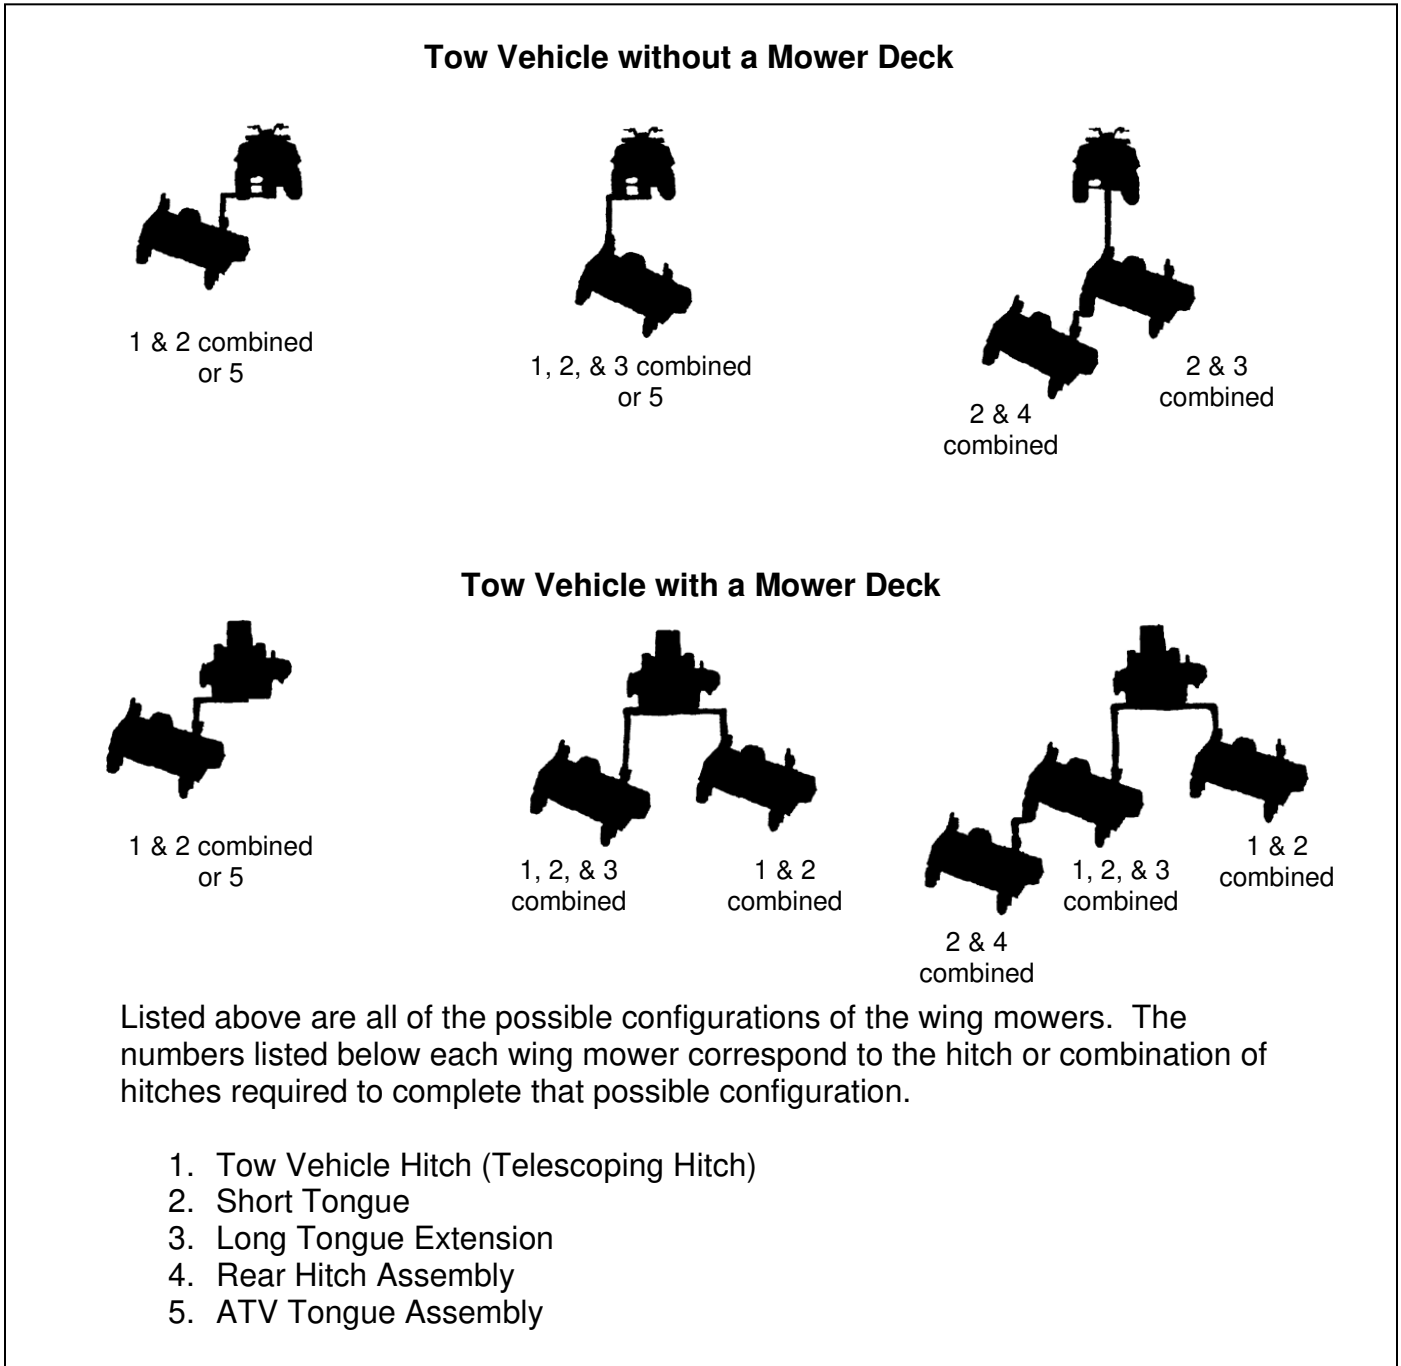

Figure 6: Wing Mower Towing Suggestions and Required Hitches
B. HITCH CONFIGURATIONS (Refer to Figure 6)
C. ATV TONGUE CONFIGURATIONS (Refer to Figure 6)